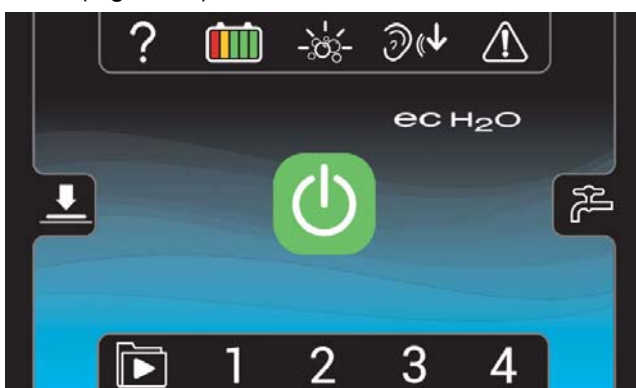

FIG. 57
**Operator Mode home screen** restricts access to the machine settings button and maximum scrub speed button (Figure 57).